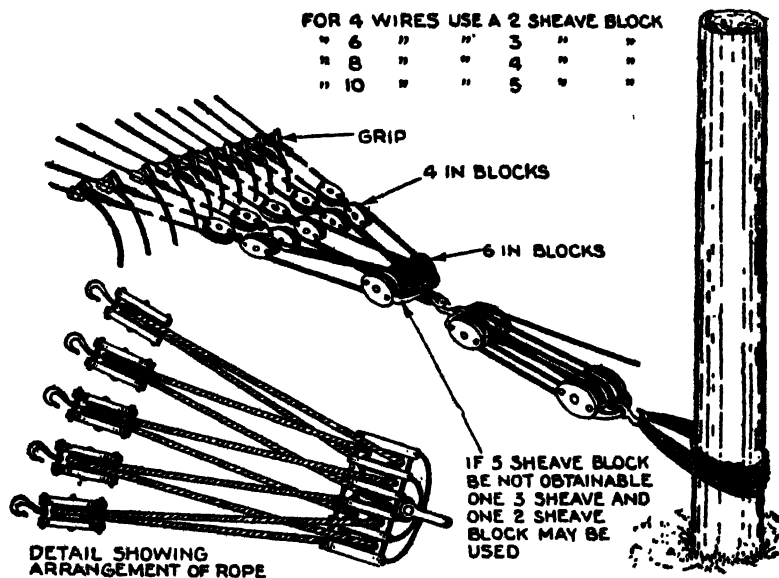

FIG. 5,895.—Pulling apparatus for pulling a number of wires of the same size.
**Sag.**—By definition sag is *the extent to which a wire dips by its own weight at the middle of the span between two points of support*. In pole line wiring the point at which the sag is measured depends upon whether the ground be level or sloping as indicated in figs. 5,897 and 5,898.